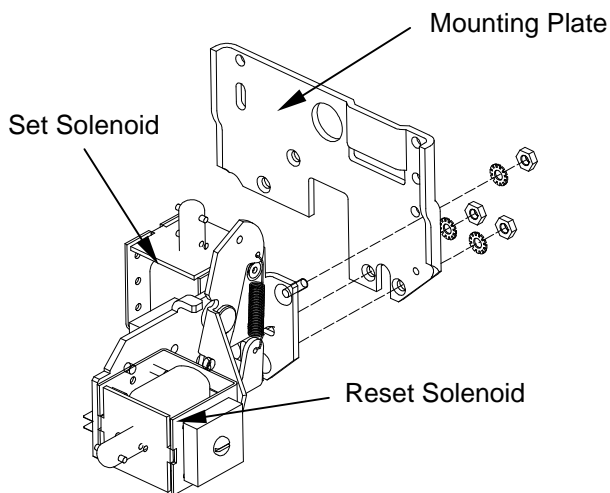

Figure 64. Network Interlock module fastening to the mounting plate.
4. Remove the Network Interlock module from the mounting plate by removing the three sets of nuts and washers, as shown in Figure 64.
3. Fasten the Network Interlock module to the accessory mounting plate using three sets of # 8-32 nuts, spring washers, and flat washers as shown in Figure 64.